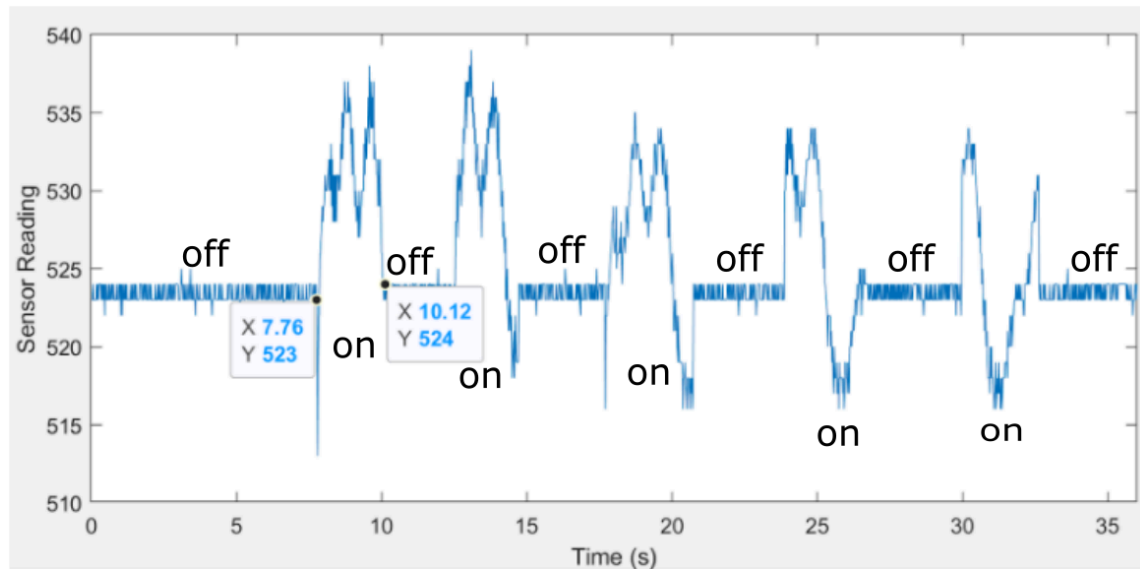

Fig. 4
To demonstrate output biasing after you find a reasonable frequency, switch on and off the function generator output for 5 cycles. Each time, keep the injection signal on for at least 3s. You have a limit of 60 seconds to finish these 5 cycles. Log your sensor readings. You will get some readings similar to the ones shown in Fig. 4. Note that your goal is to continuously
cause positive or negative deviations (i.e., always larger or smaller than the sensor readings without attack signals) for at least 1.5 second. In Fig. 4, the first attack achieved $10.12 - 7.76 = 2.36$ seconds.
- Submit a figure similar to Fig. 4 by showing the sensor readings with and without injection attack for 5 times. Once you complete this figure, please ask the TA to check it off during lab sessions or open hours.
- You also need to clearly label on the figure two points that show the longest duration of your continuous positive or negative deviation among the 5 attack cycles, as shown in Fig. 4.